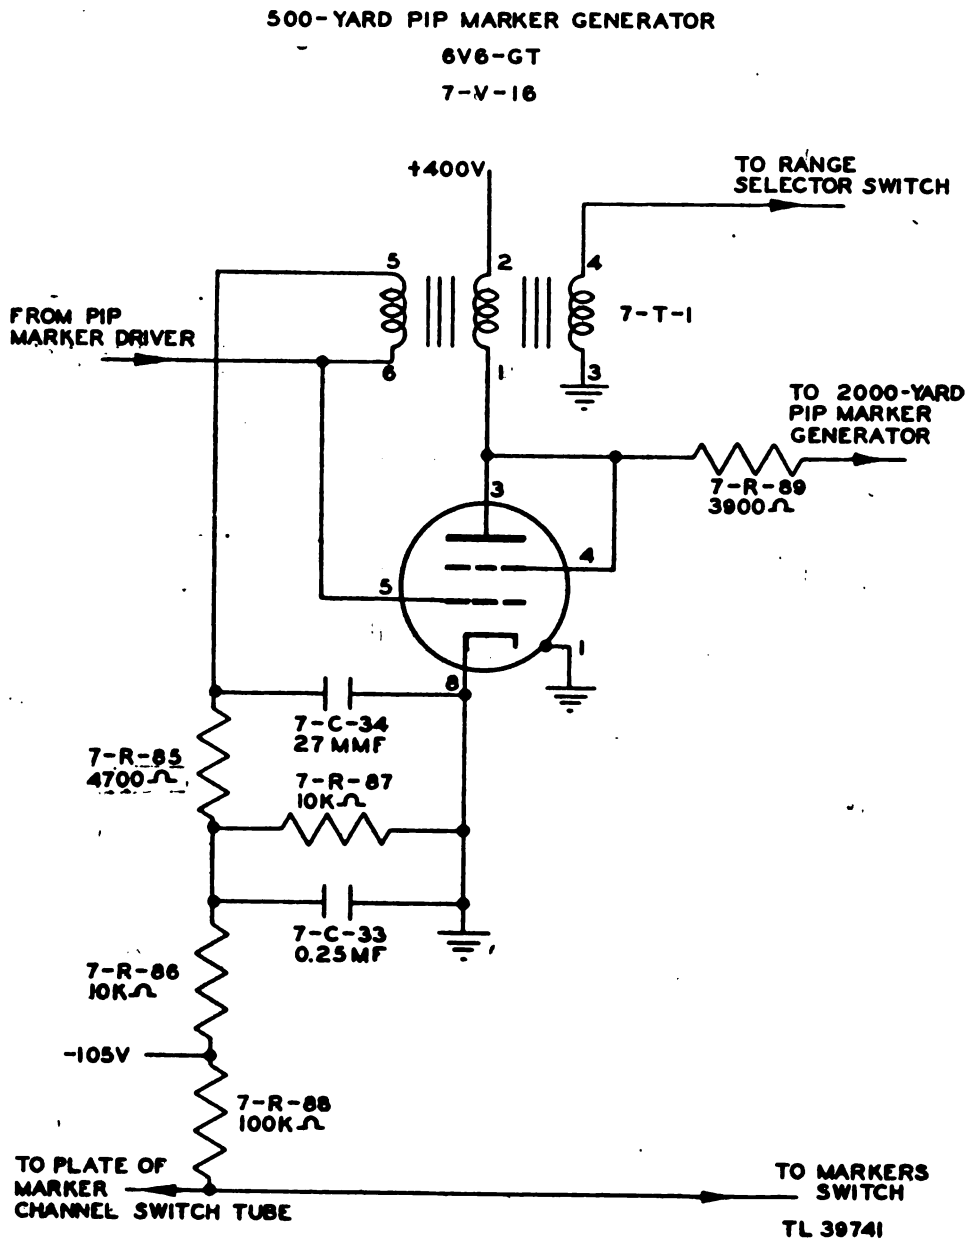

Figure 125. Pip marker generator (500-yard), simplified schematic diagram.
**e. 500-YARD PIP MARKER GENERATOR.** The 500-yard pip marker generator, 7-V-16 (fig. 125), develops sharp positive pips with amplitudes of approximately 160 volts which are fed to the fine pip clipper stage. The output of the stage also triggers the 2,000-yard range marker stage.
**e. THE 500-YARD PIP MARKER GENERATOR.** (1) A 6V6-GT tube, 7-V-16, is used as the 500-yard pip marker generator (fig. 125). The grid and plate are connected to a specially constructed transformer, 7-T-1. The transformer has three windings: grid, plate, and output. The core is made up of extremely thin iron laminations (0.003 inch thick). Thin laminations are used because the current changes in the transformer are very large, and occur very rapidly; therefore, high eddy current and hysteresis losses occur in the core material. During no-signal periods the grid voltage of this tube is -52.5 volts, obtained from a divider network, consisting of resistors 7-R-86 and 7-R-87, connected between -105 volts and ground. This biases the tube well below cut-off. Each positive pulse from the pip marker driver allows the 500-yard pip marker generator tube to conduct. During the conduction period, plate current flows in the transformer plate winding. This current induces a voltage across the grid winding such that the grid goes highly positive causing the plate current of the tube to rise almost instantaneously to saturation. When the tube reaches saturation, there is no further change in current through the plate winding, hence no voltage is induced across the grid winding. Capacitor 7-C-34 which charges as the grid goes positive, starts to discharge and drive the grid negative. The current in the plate winding decreases, inducing a voltage across the grid winding, driving the grid still more negative. The increase in negative grid voltage rapidly decreases the plate current inducing a greater voltage across the grid winding. This causes the grid to go still more negative, and be driven almost instantaneously beyond cut-off, blocking the tube. This blocking action occurs so rapidly that only the sharp wave front of the triggering pulse passes through the